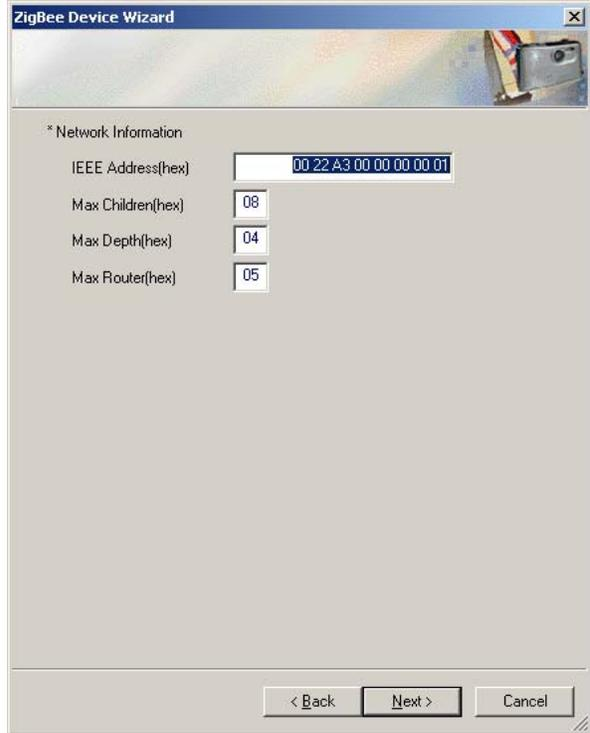

Figure 16 – Screen, ZigBee Device Wizard (Network Information Setting)
- 3) When Figure 16 is displayed, check the five defined network information fields, edit if necessary, and click '**Next**'. Descriptions of the five fields are given below: